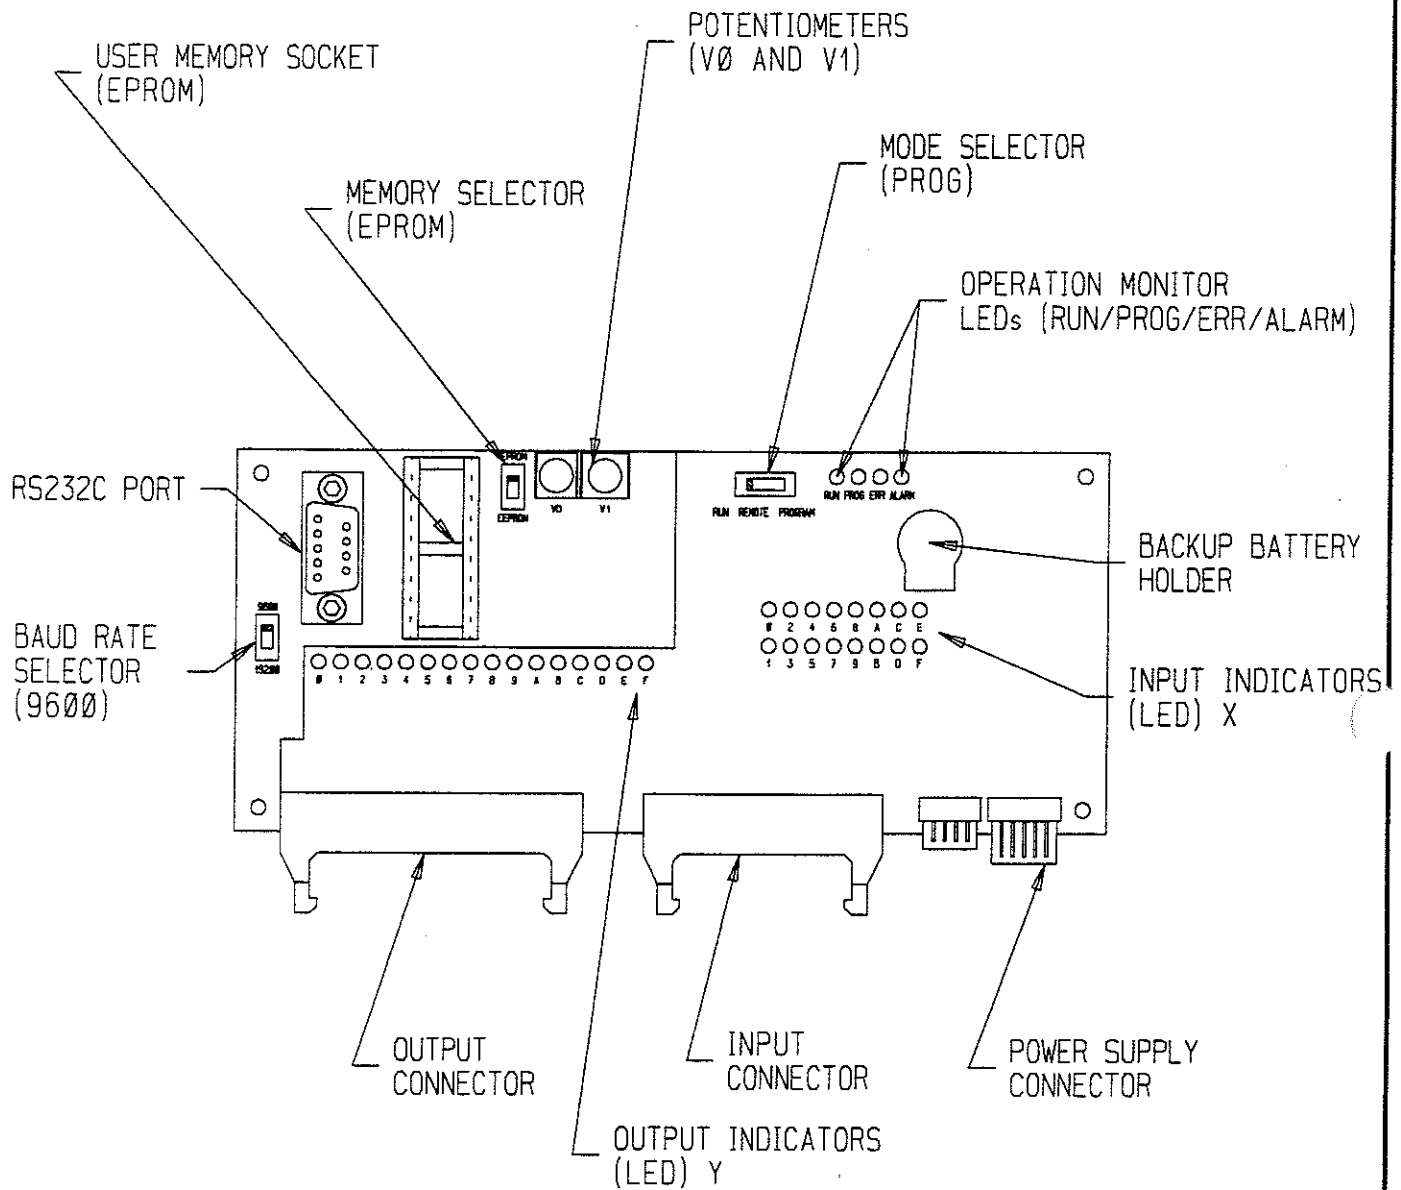

FIGURE 4-8
P.L.C. (Fig. 4-8)
P.L.C. (Fig. 4-8), Continued.